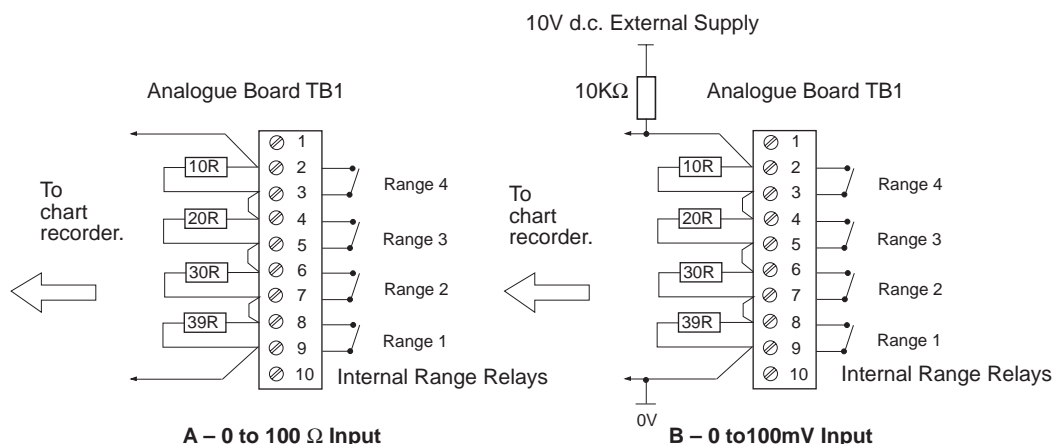

Fig. 2.6 Resistor Network for 'Auto' Remote Range Indication Recorder
2.5.2 Range Indication (Fig. 2.6)
Suitable range indication recorder input can be achieved using a resistor network, connected as shown in the two examples in Fig. 2.6. and consists of four 1/4 watt resistors. A suitable resistor network kit as given in Section 6. A recorder with suitable voltage and resistance inputs can be provided by the Company. The recorder gives 60, 70, 80 and 90% scale deflection for ranges 1 to 4 respectively.